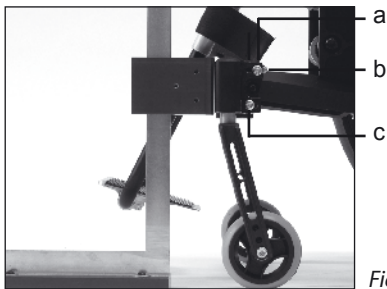

Fig. 8
To ensure good steering and directional stability of your wheelchair, align the castor axle vertically on even ground (Fig. 8).
2. Loosen the locking screw (*Fig. 8 b*) (Allen key SW 2.5 mm and spanner SW 8)
3. Loosen the fastening screws (*Fig. 8 c*) (Allen key 5 mm) that fix the clamp blocks to the frame
4. Move the castor block (*Fig. 8 a*) into the vertical position. To do so, check whether the front edges of the clamp blocks and thus the castor axles are at a right angle (90°) to the ground. This can be checked most simply by using a corresponding triangle. If this setting is not possible, contact your medical supplies dealer or PRO ACTIV